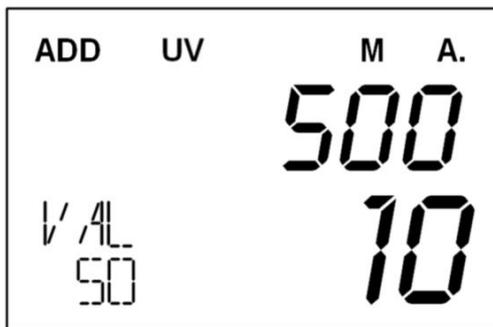

Figure 70
3) Press the **"Denom."** button on the right side several times, and stop pressing the button after the denomination is adjusted to "VAL 50". Then put the \$50 banknotes into the machine for counting, and remove the banknotes after the counting is completed. The display will appear as shown in Figure 70.